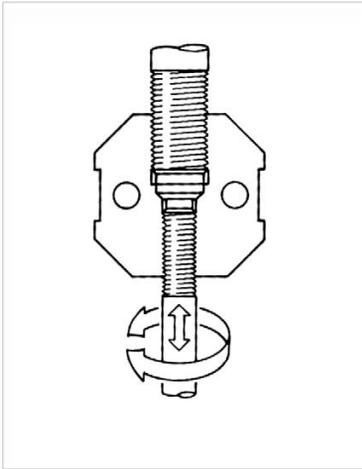

Figure 5: Stem clamp, connection between actuator and valve stem
8. Fine adjustment may be made (with the plug off the seat) by slightly slackening the plug stem towards or away from actuator stem (Figure 5) using spanners fitted to the flats provided on both stems for this purpose.